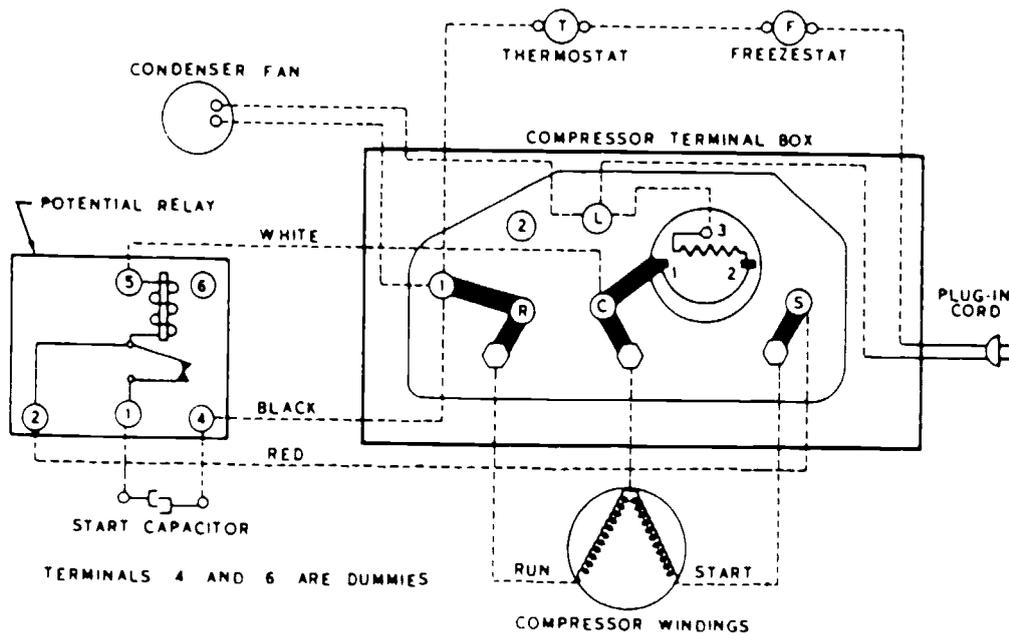

Figure 17. Potential Relay Wiring Diagram
**Typical Potential Relay Wiring Circuit.** A typical potential relay wiring circuit is illustrated in figure 17. This is the wiring diagram of a glass filler type water cooler. After thoroughly studying this circuit, locate and identify each of the major components, terminals, and electrical conductors.
**Operation.** The freezestat is for safety purposes only and is normally closed. It only opens if the temperature of the water drops down near 33°F, see figure 17. When the thermostat closes, current can flow from the plug-in cord, through the freezestat and thermostat to terminal 1. At this moment three circuits are completed.